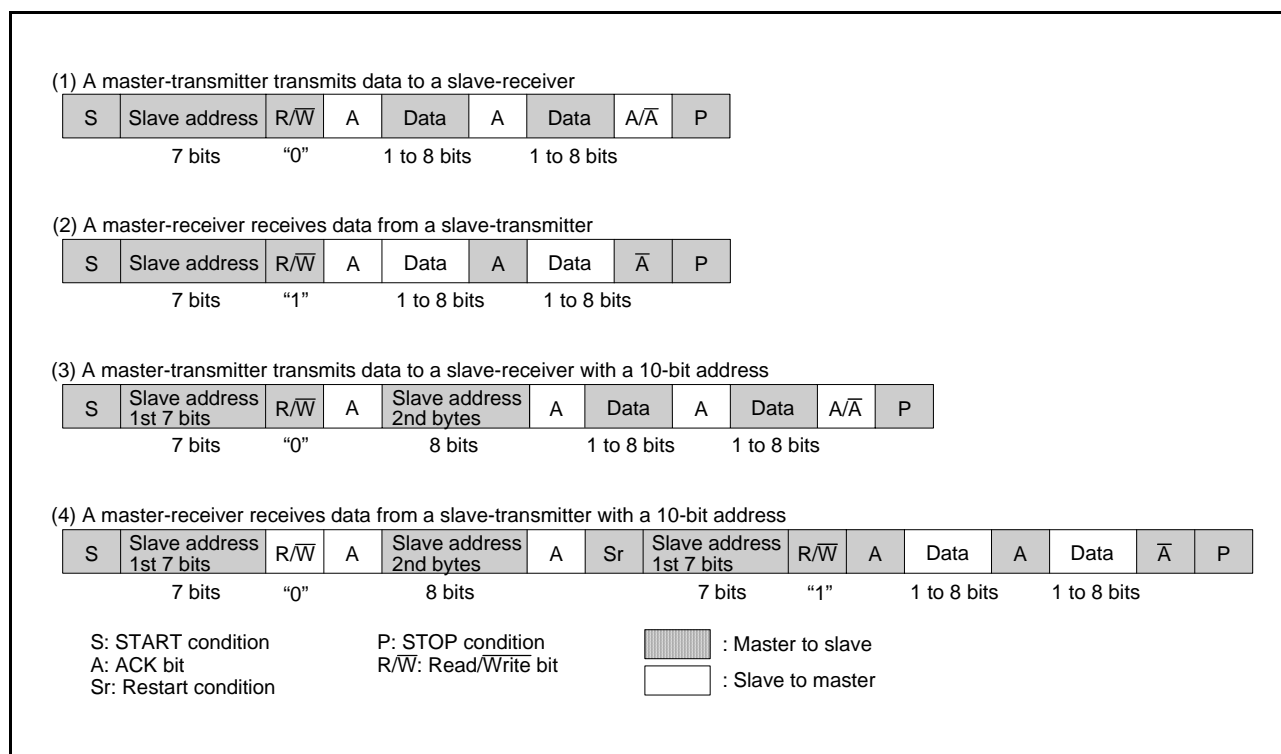

Fig. 73 Address data communication format
To adapt the 7-bit addressing format, set the 10BIT SAD bit of the I2C control register (S1D: address 001416) to “0”. The first 7-bit address data transmitted from the master is compared with the high-order 7-bit slave address stored in the I2C slave address register. At the time of this comparison, address comparison of the RWB bit of the I2C slave address register is not performed. For the data transmission format when the 7-bit addressing format is selected, refer to Figure 73, (1) and (2).
When the first-byte address data agree with the slave address, the AAS bit of the I2C status register (S1: address 001316) is set to “1”. After the second-byte address data is stored into the I2C data shift register (S0: address 001116), perform an address comparison between the second-byte data and the slave address by software. When the address data of the 2 bytes agree with the slave address, set the RWB bit of the I2C slave address register to “1” by software. This processing can make the 7-bit slave address and R/ $\overline{W}$  data agree, which are received after a RESTART condition is detected, with the value of the I2C slave address register. For the data transmission format when the 10-bit addressing format is selected, refer to Figure 73, (3) and (4).